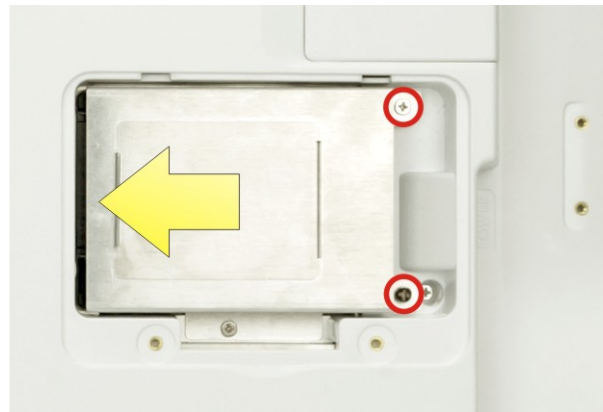

Figure 3-4: HDD Installation
Step 6: Place the HDD and slide it to securely connect to the SATA connector of the POCm-W22/24C-ULT3 (**Figure 3-4**).
Step 7: Secure the HDD bracket by fastening the two retention screws previously removed (**Figure 3-4**).